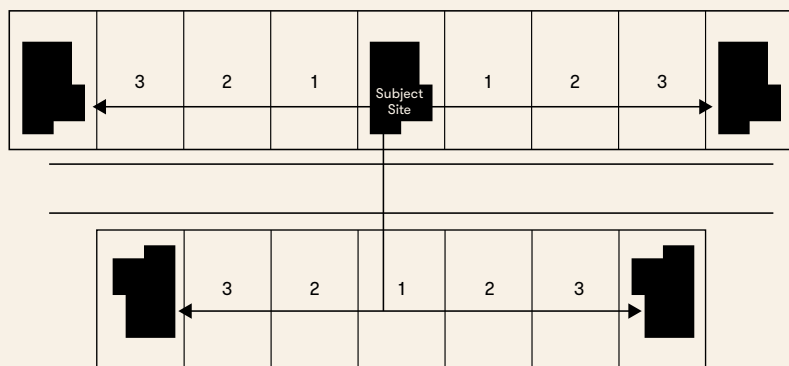

Figure 1 Façade Variation Requirements
- A)** Dwellings using the same front façade design must be separated by a minimum of three (3) dwelling lots on the estate. This would include using lots either side and opposite your lot.
- B)** Figure 1 illustrates the intent.